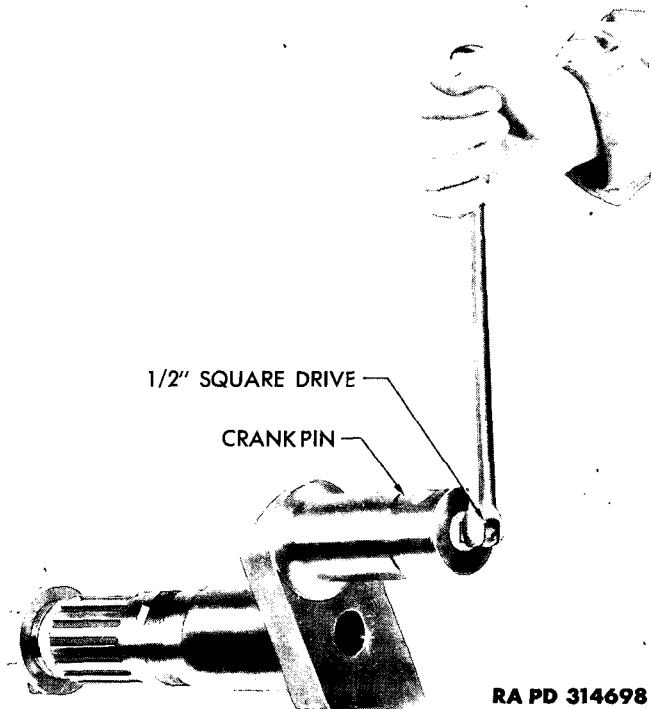

Figure 125 — Removing Crankpin Plug
j. **Remove Crankpin Plug from Crankpin.** Using square wrench, remove plug from rear of crankpin (fig. 125). Crankshaft disassembly is now completed.